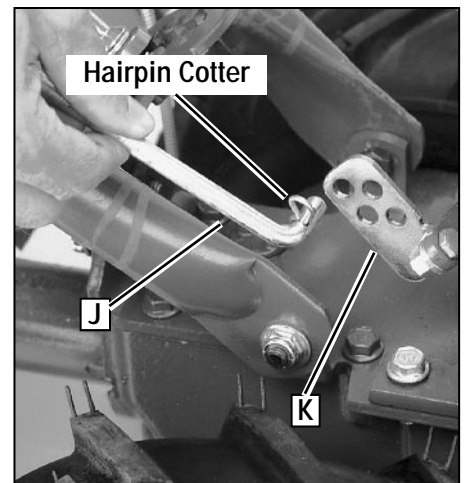

Figure 2-7: Install Forward Clutch rod.
1. The upper end of the Forward Clutch rod is connected to the two Forward Clutch levers (paddles) that hang below the handlebar grips. Turn the lower end of the rod (J, Figure 2-7) so that the angled end points inward toward the outer face of the clutch swivel plate (K).
2. Insert a hairpin cotter down through the innermost hole in the rod (Figure 2-7).